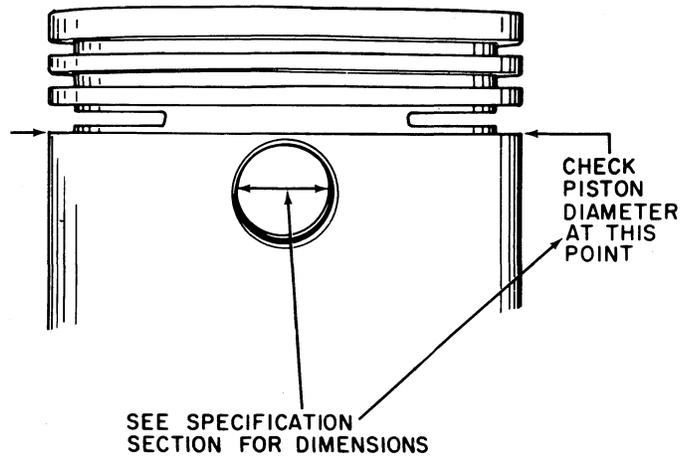

Figure 20
2. When the piston is removed (see Figure 20), clean the carbon from the upper cylinder bore and the cylinder head. The piston and piston pin must be replaced in matched sets.